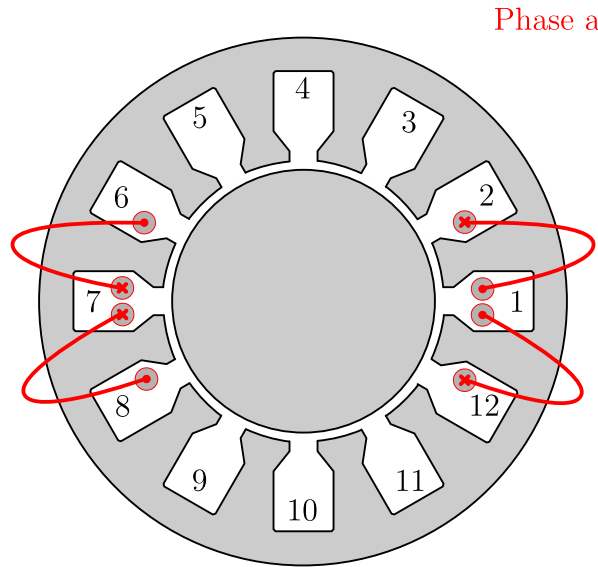

Figure 4.3.1: Simplified sketch of a concentrated winding. Only phase a is shown.
Consider the shown 10-pole 3-phase motor with 12 stator slots in Fig. 4.3.1. The winding scheme of phase a is shown in the figure.
4.3.2 Complete Tab. 4.3.1 with the winding scheme for phases b and c. Sketch the resulting winding scheme in Fig. 4.3.1.
Table 4.3.1: Winding scheme of a concentrated winding from Fig. 4.3.1.